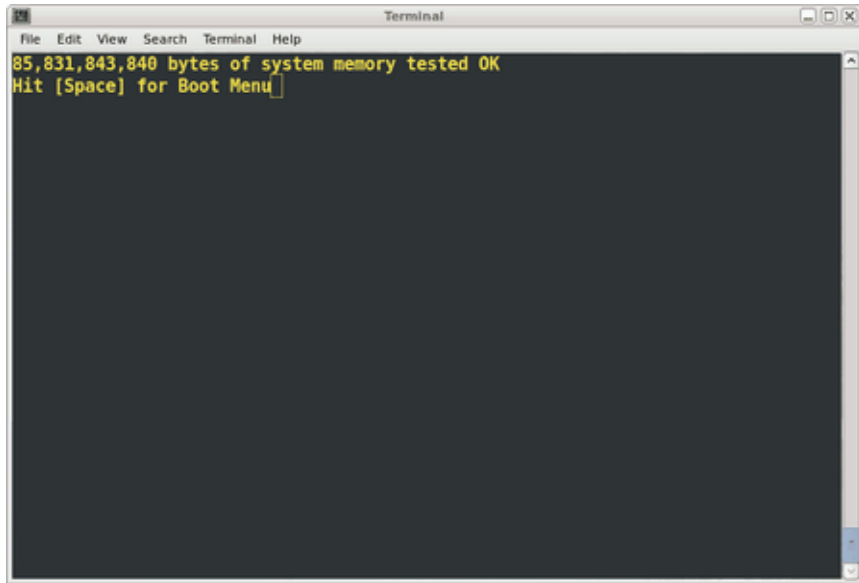

Figure 1-4 Console Prompt for Boot Menu Screen
8. When prompted on the console, hit the space bar for the **Boot Menu**, as shown in Figure 1-4 on page 6.
- Hit the space bar for the **Boot Menu** (see Figure 1-4 on page 6).